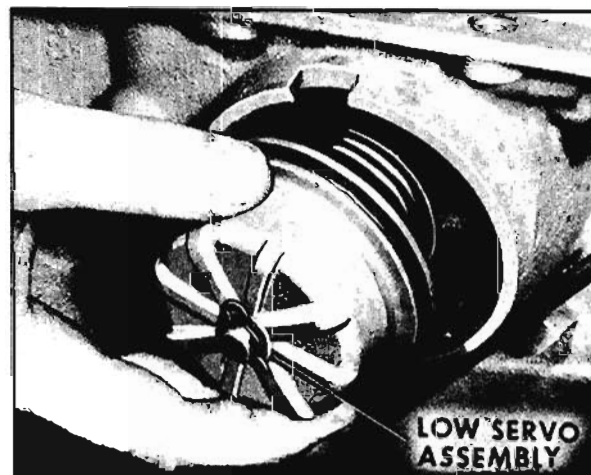

Fig. 6-272 Removing Low Servo Piston
5. Remove low servo piston assembly from case. (Fig. 6-272)